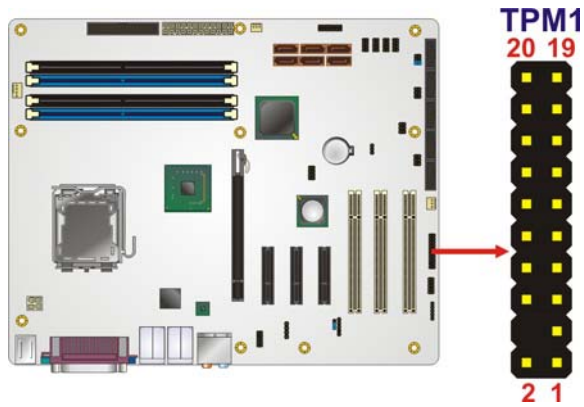

Figure 4-19: TPM Connector Pinout Locations
- CN Location:** See **Figure 4-19**